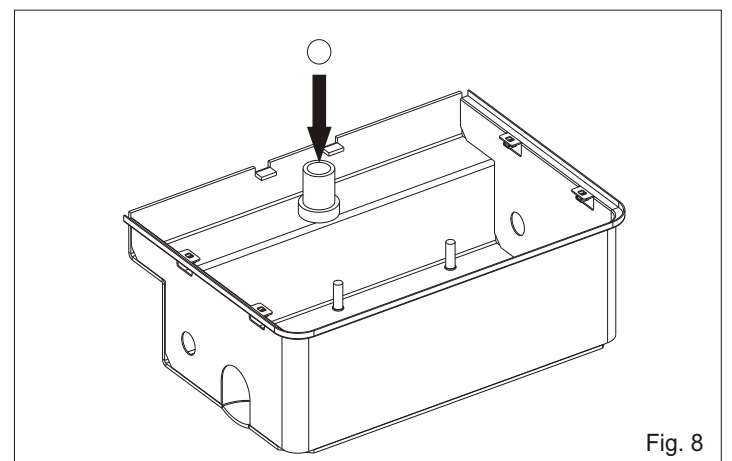
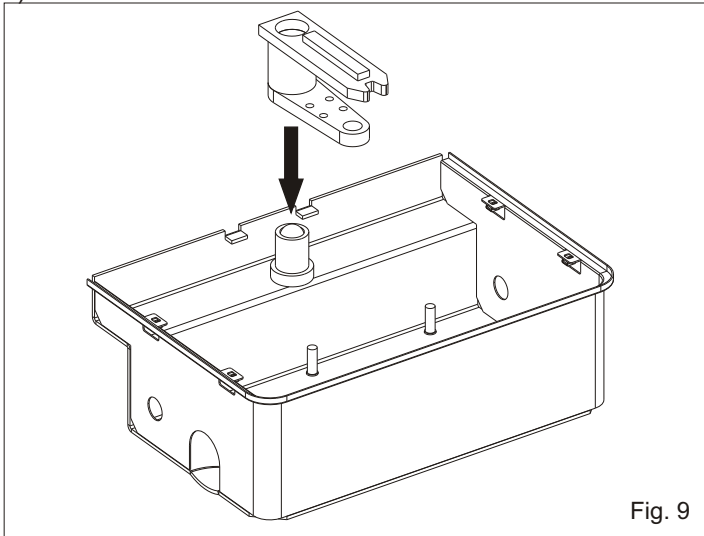
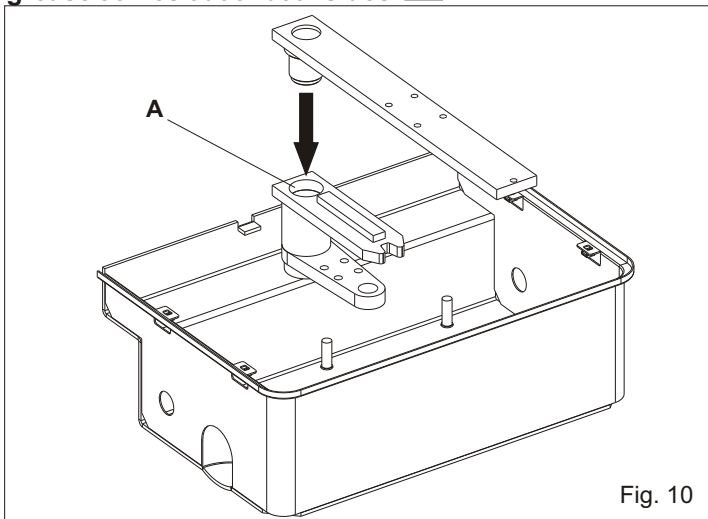

Fig. 8
Fig. 9
Fig. 10
2.4. Insert the ball into the perforated shaft (Fig. 8)
2.5. Insert the handle bar device into the perforated shaft (Fig. 9)
2.6. Grease plentifully the hole A and insert the leaf device (Fig. 10)
**N.B.: During the insertion of the units lubricate them with the supplied grease (Fig.8, Fig.9, Fig.10).**